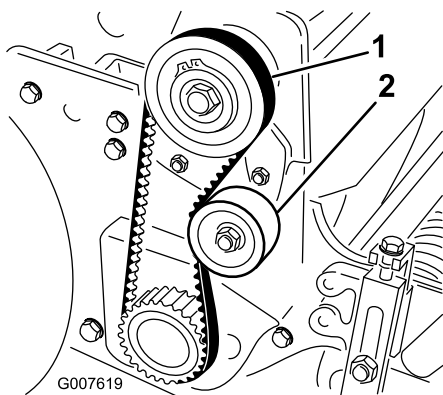

Figure 36
2. Check the tension by pressing the belt at mid span of the pulleys (Figure 36) with 18 to 22 N (4 to 5 lb) of force. The belt should deflect 6 mm (1/4 inch).
- A. Loosen the idler-pulley mounting nut and pivot the idler pulley clockwise against the backside of the belt until you attain the desired belt tension (Figure 36).